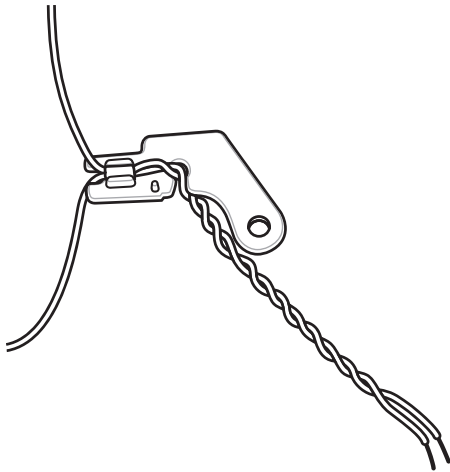

Figure 3-29 *Pre-attach Wire to Right Side Bracket*
2. Ensure the right side bracket is pre-attached to the wire as shown in Figure 3-29.